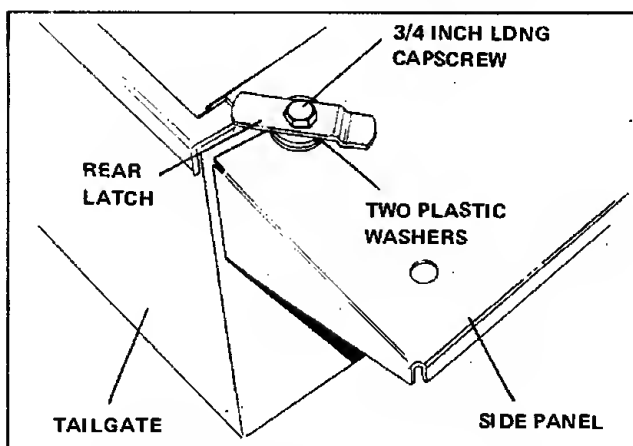

Figure 21. Installing Bar Latch
4. Attach the rear latches to the side panels as shown in figure 21, using a $\frac{5}{16}$ x $\frac{3}{4}$ inch capscrew, flat washer, two plastic washers, and locknut. Place the latch on the capscrew, then two plastic washers. Insert the capscrew through the side panel, and place a flat washer and locknut on the capscrew, tightening the locknut.